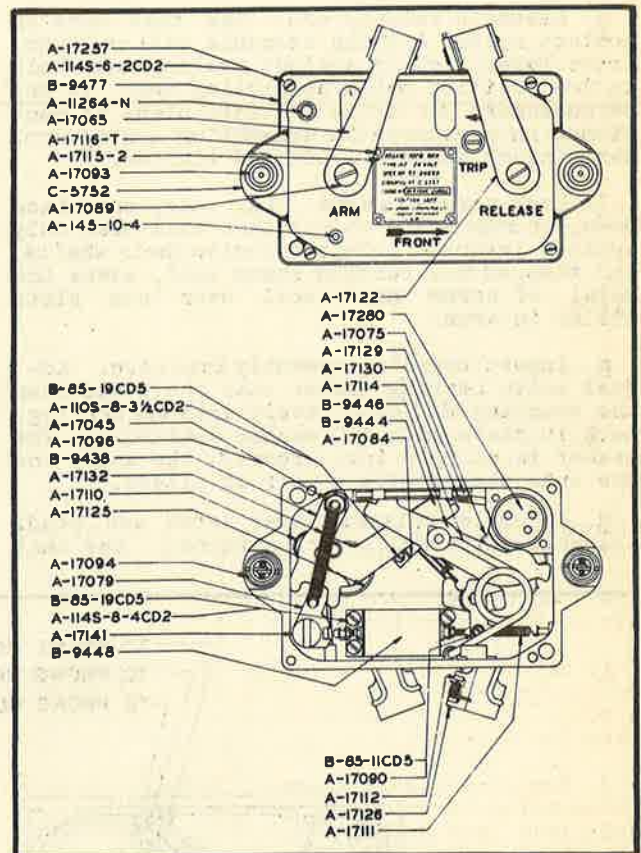

Figure 14 - Detailed Assembly Drawing - Right-Hand
1. To cock or place the bomb rack release type A-2 in an operating position, pull outward on both arms. The arming arm should be advanced slightly ahead of the release arm assembly. The arming lever latch B-9430, hooks under the latch surface of the arming lever assembly B-9443. As the arming lever assembly is raised, the release lever latch B-9431 is pulled into position and hooks under latch surface of release lever assembly B-9445, as shown in figure 2 and figure 14.